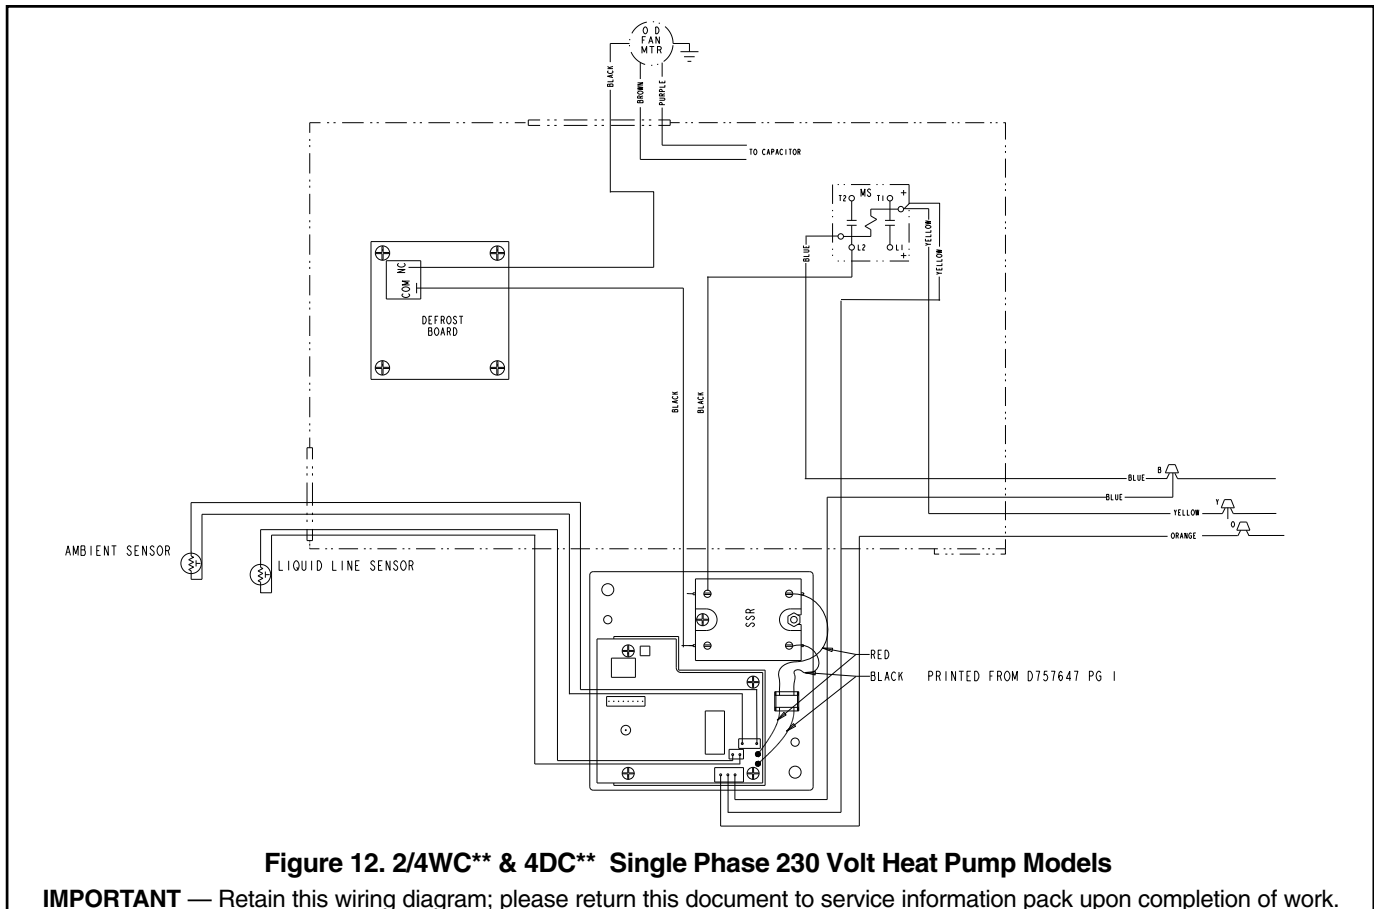

Figure 12. 2/4WC** & 4DC** Single Phase 230 Volt Heat Pump Models
7b. 2/4WC** & 4DC** Single Phase 230 Volt Heat Pump Models. See Figure 12.
2. Connect the **yellow** lead wire of the harness to a ¼ " male tab on the right hand side of the main contactor (low voltage contactor coil terminal). See Figure 12.